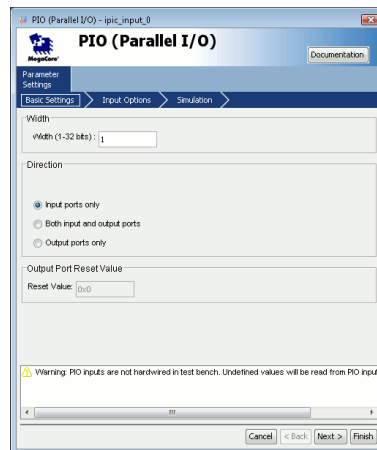

Figure 1.6: Input part of the Interprocessor Interrupt. The Figure shows the Avalon PIO basic settings.
18. Add two Avalon PIOs named `ipic_input_0` and `ipic_input_1`. The PIO must be a 1 bit Input PIO, with Synchronous capture on the rising edge, and an Edge IRQ. Screenshots of the PIO dialog boxes can be found in Figures 1.6, 1.7, and 1.8. These PIO will be used by each CPU to receive interprocessor interrupts. Connect `ipic_input_0` to the `cpu_0` data bus, and `ipic_input_1` to the `cpu_1` data bus. This is the last component that have to be added to SOPCBuilder for this demo. Let’s now remove all the errors that appears in the bottom of the window, and setup the other tabs of SOPCBuilder.